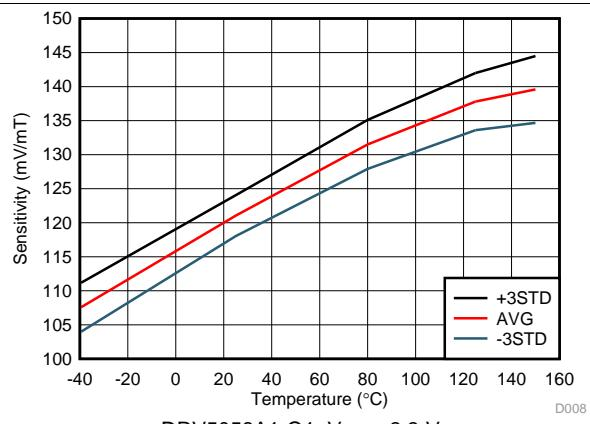

图 6. Sensitivity vs Temperature
(1) B is the applied magnetic flux density.
(2) B_L describes the minimum linear sensing range at 25°C taking into account the maximum V_Q and Sensitivity tolerances.
(3) See the Sensitivity Linearity section.
(4) S_{TC} describes the rate the device increases sensitivity with temperature. For more information, see the Sensitivity Temperature Compensation For Magnets section and 图 6 to 图 13.
(5) See the Ratiometric Architecture section.